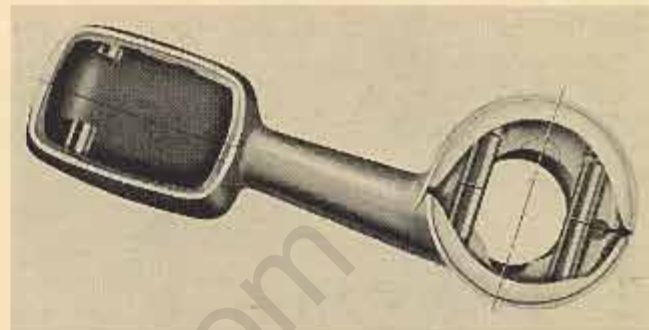

Fig. 2
9. File out a notch in the rib of the push button switch bracket indicated by the dotted line in figure 2. File the notch to the same size as in the other half of the bracket.